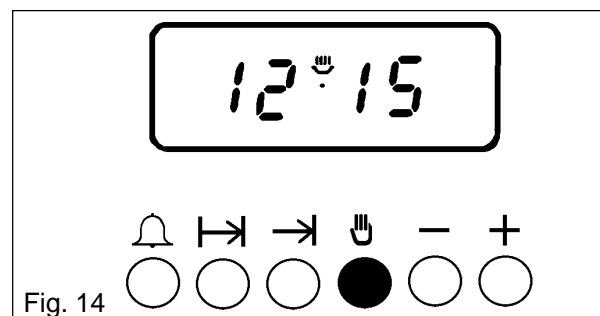

Fig. 14
- Press (⏸) button. See Fig. 14. The AUTO display goes out and the cookpot symbol will show.